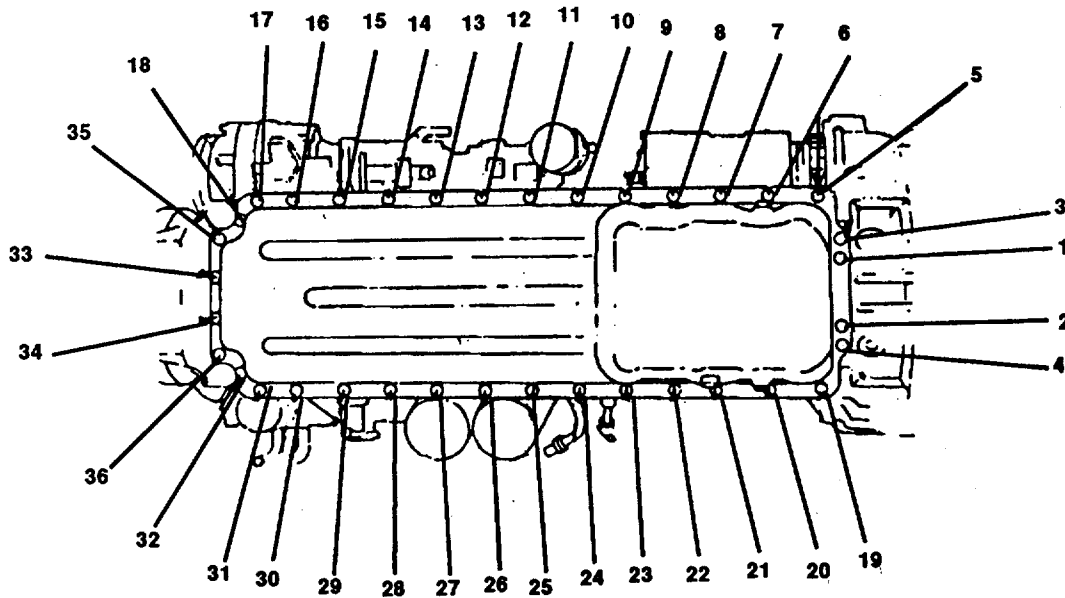

FIGURE 3-97. Oil Pan Torque Sequence.
- (q) Tighten the four 5/16-inch capscrews in the rear of the oil pan to 20 ft-lb (25 N•m) torque in the sequence shown (FIGURE 3-97) .